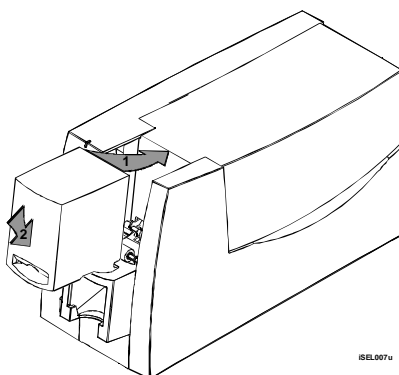

Figure 2-4: Replace the card cartridge
- 4 Replace the card cartridge in the cavity (step 1 in Figure 2-4). Push the bottom of the card cartridge toward the printer until it clicks into place (step 2 in Figure 2-4).